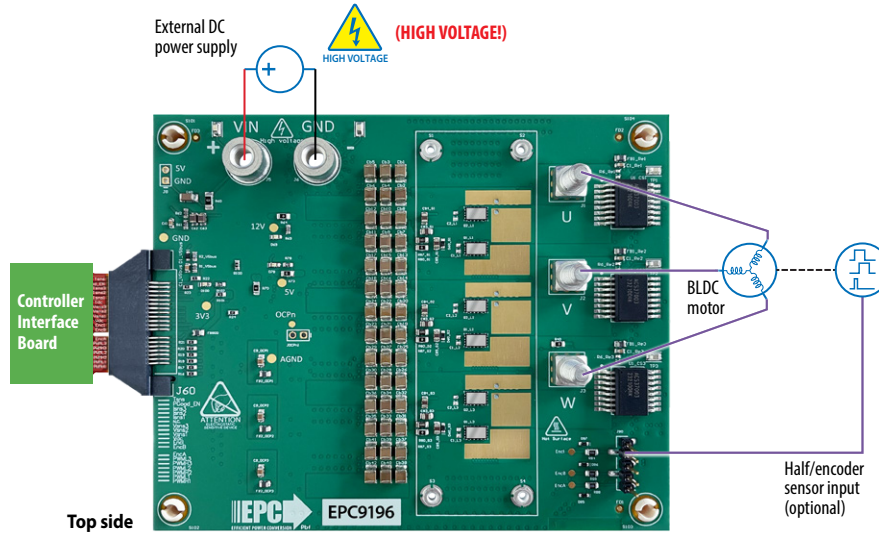

Figure 5: Connection diagram of the EPC9196 configured as a motor drive inverter
2. Connect the correct motor, whose parameters are programmed into the controller, to the EPC9196 at connector J1 and the DC power supply at connectors J5 and J6 (**Observe correct polarity, there is no inverse polarity protection on board**) and shown in figure 5.